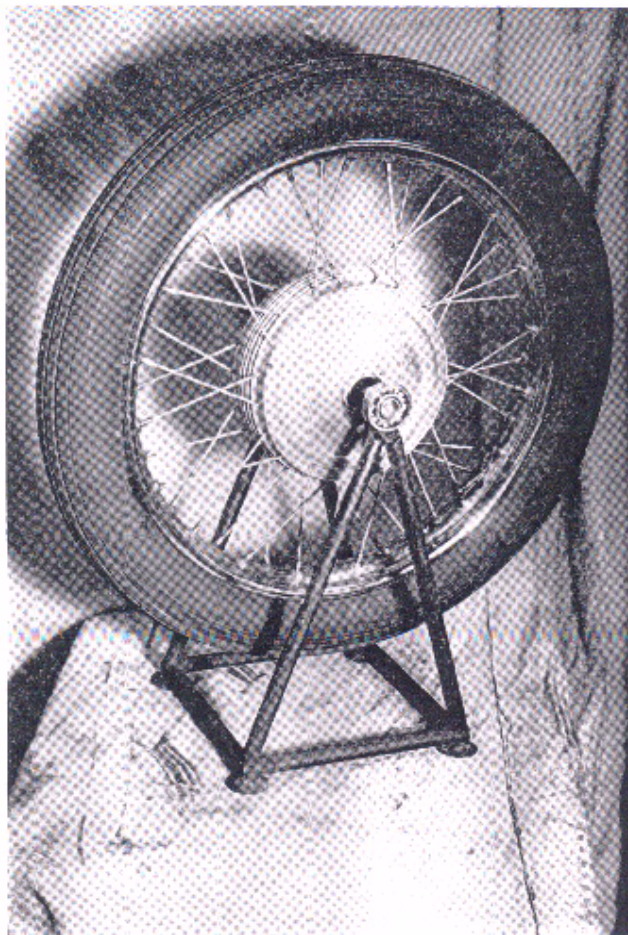

FIG. 45 *Balancing the Road Wheels*
3. Mount the wheel—with the rod through the hub supported by the two bearings, on a stand—two wooden boxes will do. A workshop stand for this service is shown in Figure 45.